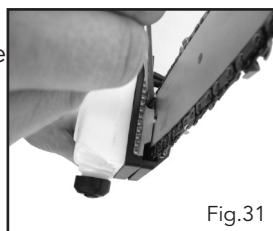

Fig.31
2. Turn the chain tensioning screw clockwise so that the chain is correctly tensioned (Fig. 31)